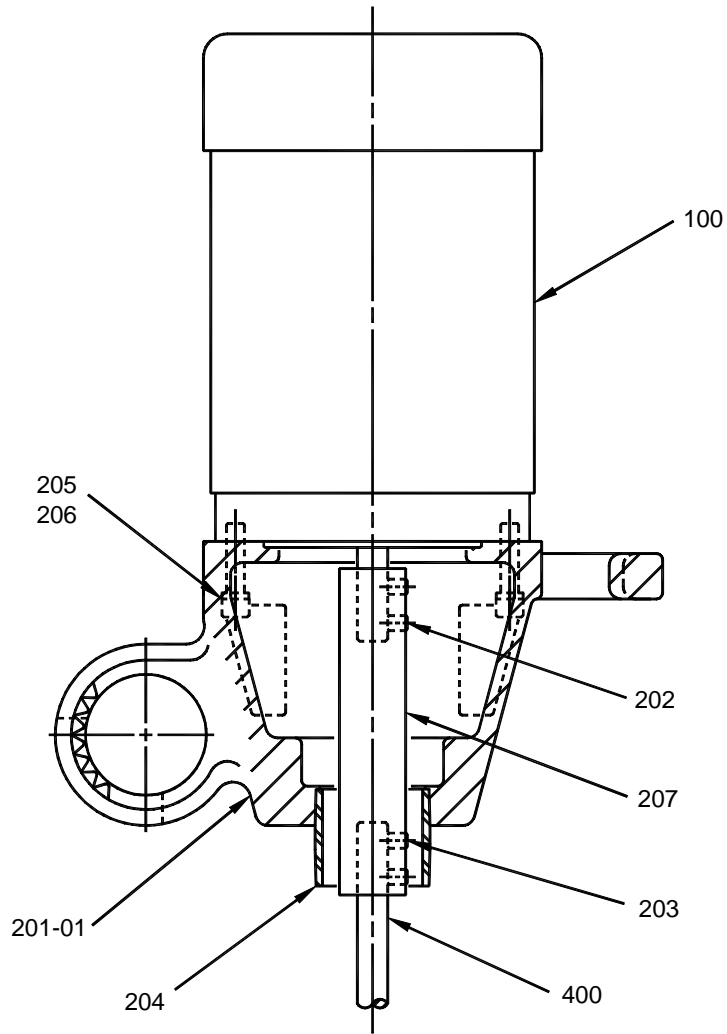

Figure 1: Model 10XPB
Figure 1: Model 10XPB .....	4
2. Install pipe nipple [204] into the 2” NPT drum opening. Refer to *Figure 1, page 4*.